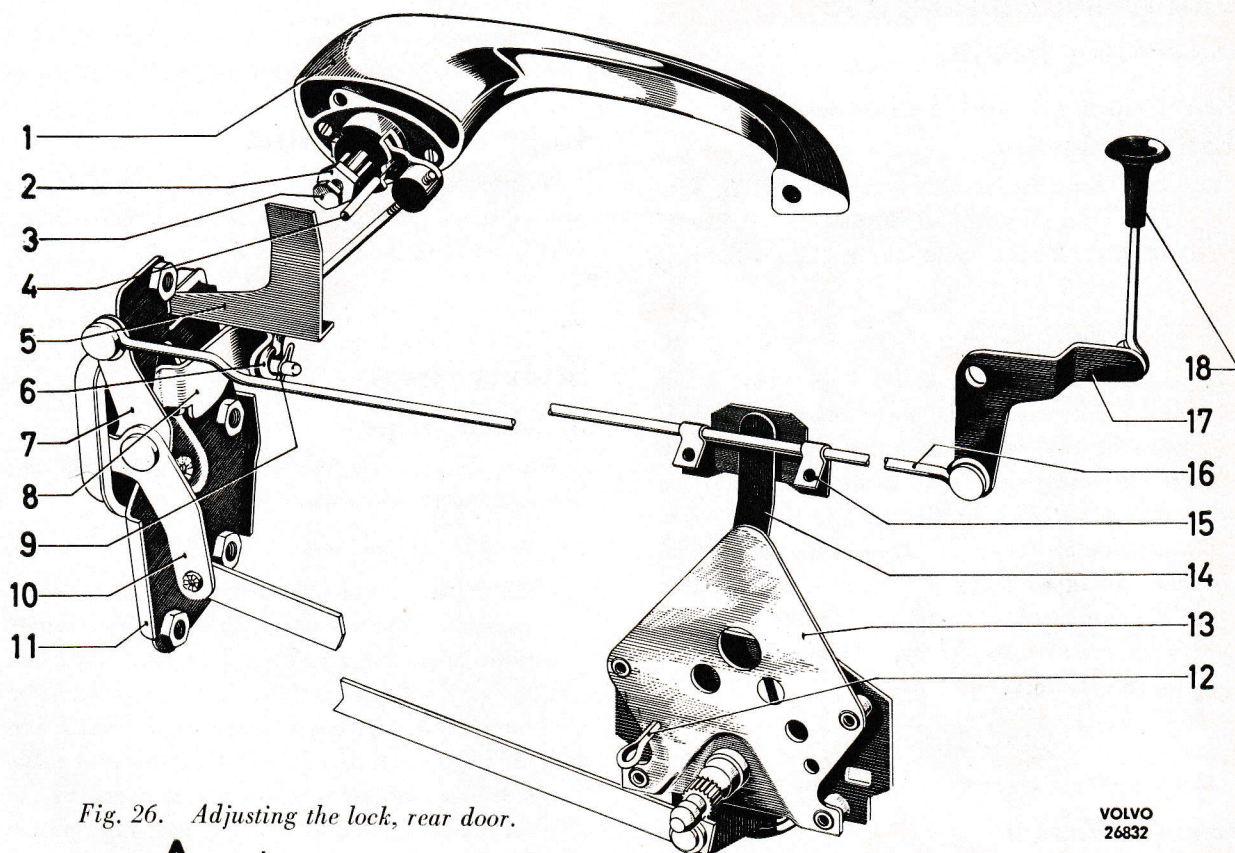

Fig. 26. Adjusting the lock, rear door.
1. Fit the lock (11, Fig. 26) with remote control (13) in the door without tightening the screws.
1. Check that the measurement B (fig. b, Fig. 27) = 15 ± 1 mm ($0.59 \pm 0.04''$). Adjust if necessary. Tighten the locknut (2) on the bolt (3), Fig. 26.
2. Fit the outer handle (1) with link (6).
3. Connect the link (6) to the lever (8). The lever in the handle should be adjusted to such a position that a pin (4) (3 mm = $0.12''$) can be inserted into the hole in the handle. Adjusting is carried out by screwing the link up or down so that the eye (6) coincides with the lever (8) on the lock.